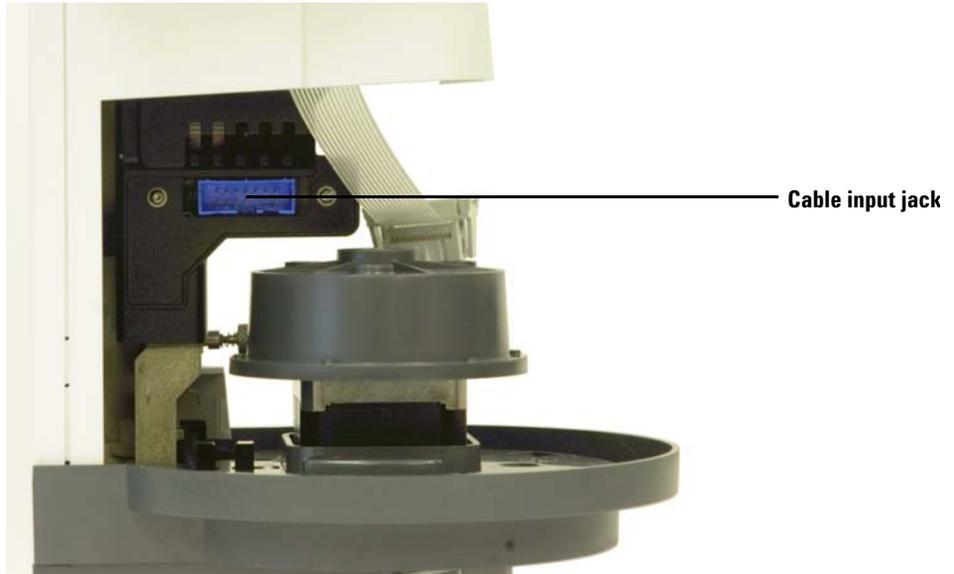

Figure 102 Accessing the cable input jack
- 13** Slide the syringe carrier assembly completely down until the cable input jack on the assembly is accessible below the Tower casing (Figure 102).